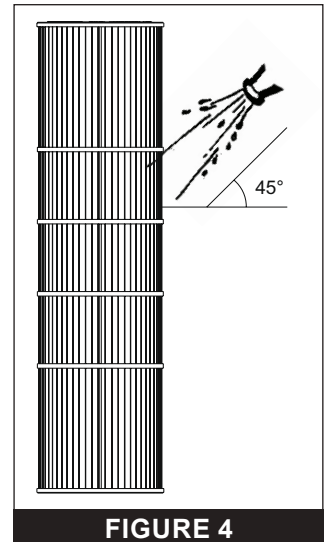

FIGURE 4
6. Using a garden hose with a straight flow nozzle, hold the nozzle at a 45-degree angle to the cartridge and wash the entire cartridge from top to bottom (see **FIGURE 4**).
7. Using a garden hose with a straight flow nozzle, thoroughly wash down the entire filter element. Wash from the top down, holding the nozzle at a 45-degree angle to the cartridge. See **FIGURE 4**, page 4.